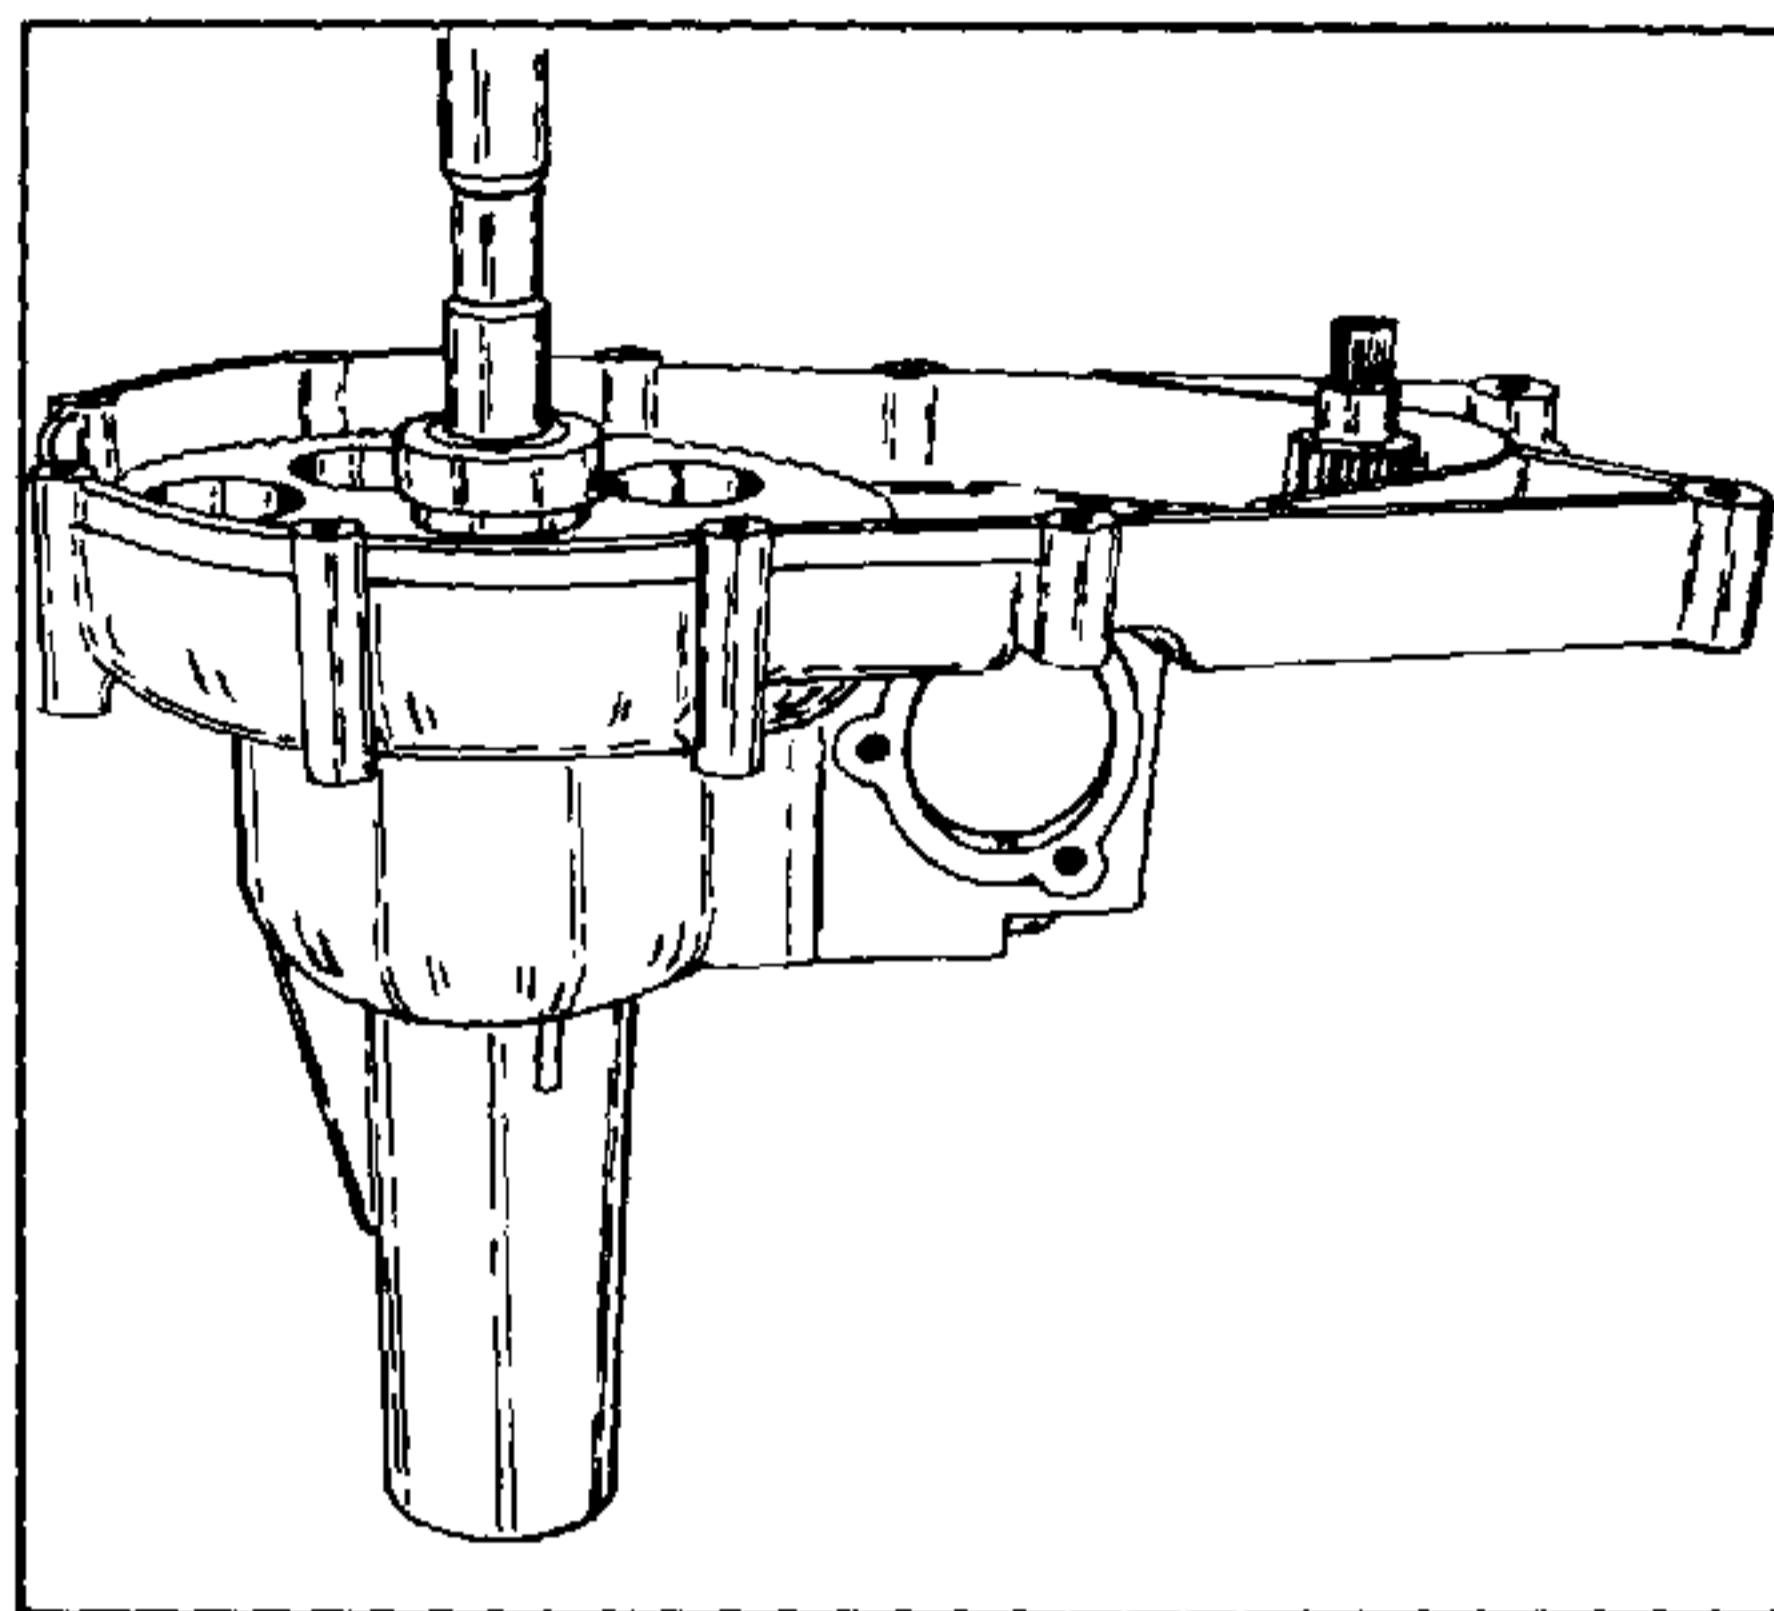

FIGURE 14.
8.00 Slide differential/axle assembly into right hand housing. (Housing on which brake is mounted.) Clamp axle gently in vise as shown in figure 14.